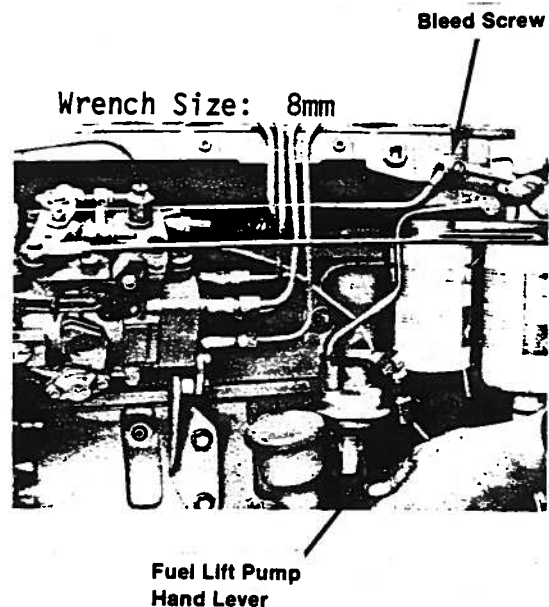

Figure 4-5. Bleeding Low Pressure Fuel Line
- a. Open bleed screw (figure 4-5).